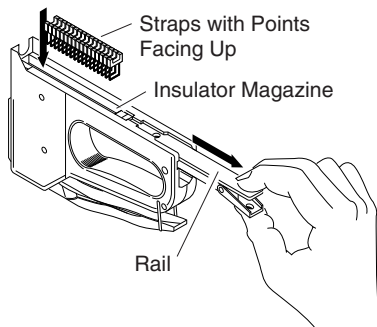

Figure 4
2. Turn StrapGun™ upside down. At rear of tool, squeeze latch on end of magazine (see Figure 4). Pull rail out of magazine until it stops (see Figure 4).
3. Drop straps into magazine. Make sure insulator is facing up (see Figure 4).